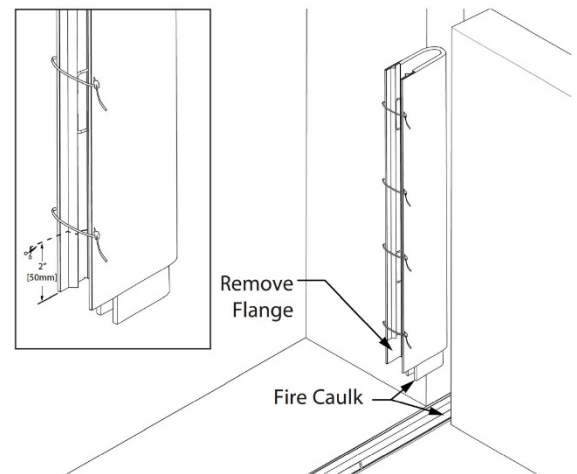
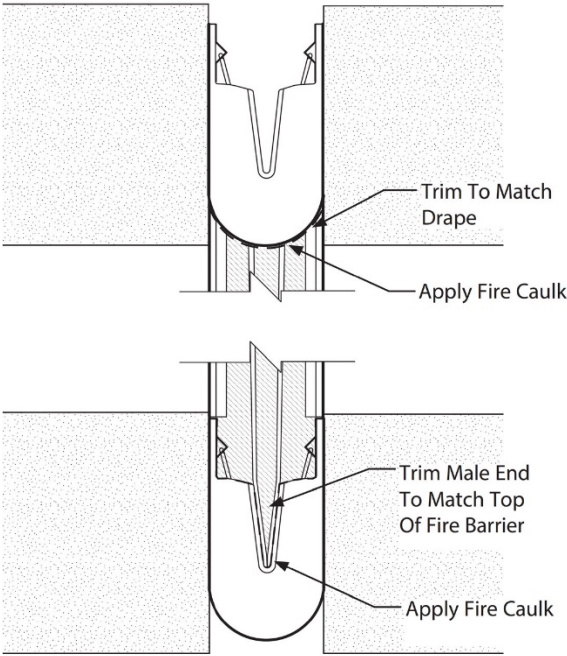
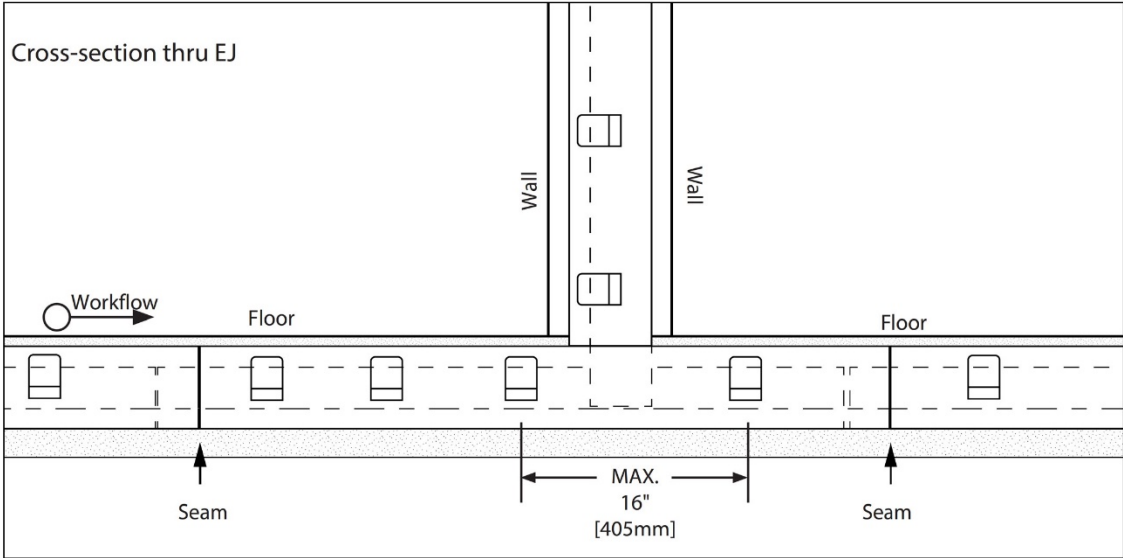

Figure 6
Figure 7
Figure 8
9. When the fire barrier meets a fire rated wall, continue the horizontal fire barrier uninterrupted, or a minimum of the total wall depth to ensure no gaps exist at the intersections, *figure 6*. Reference figure 8.
10. If a spring of the horizontal fire barrier is located inside the wall joint, it must be moved to a point before the wall to achieve a proper transition. Maintain a maximum spring spacing of 18 inches (450mm), *figure 6*.
11. Remove 2 inches (50mm) from each metal flange on the male end of the barrier. Apply UL listed fire caulk liberally to section of the fire horizontal barrier where the vertical stick will intersect, face of the male end, flanges, and interior walls of the slab before installing wall stick, *figure 6*. See *figure 7* for more detail.
12. Insert fire barrier male end down and cut the bottom most zip-tie and continue cutting upward, *figure 6*.
13. Continue vertical installation repeating steps 2-5 for the rest of the run, *figure 7*.
14. When intersecting horizontal barrier above, cut final piece to length, and trim female end to match the drape of the horizontal barrier above, applying Fire Caulk to the under side of fire barrier, the portions of the wall around the intersection, and inserting a female end. Ensure there are no gaps at transition, *figure 7*.
15. For perpendicular installs, trim intersecting fire barrier, to match the pre-installed run. Apply fire caulk to trimmed face, and side of pre-installed fire barrier, *figure 7*.